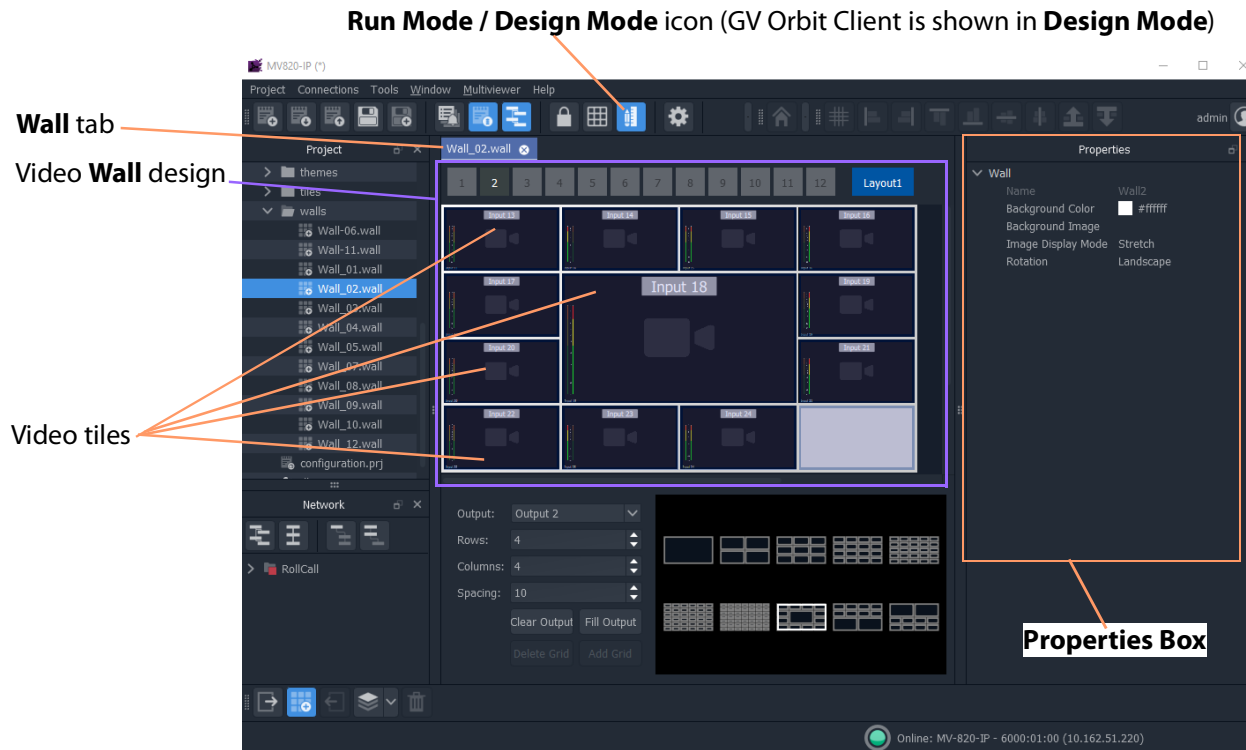

Fig. 2-35: Example Video Wall Tab in Wall Editor
- 9 Click on the large **Walls** icon, and select one of the wall items that is shown listed. The multiviewer video wall design is opened in a tab in the overall GV Orbit Client window. See Figure 2-35.